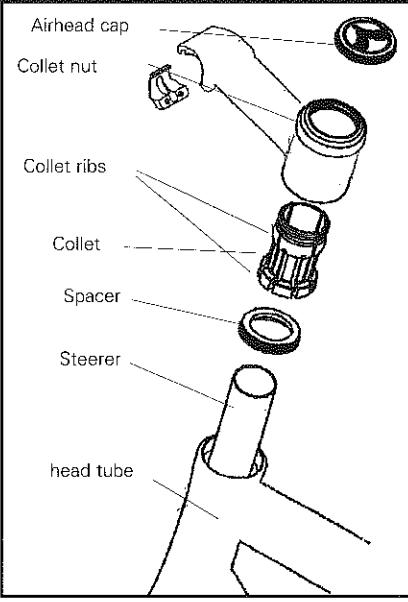

Fig. 28
- Lightly grease the steerer, and remove any excess grease with a rag. Also lightly grease the collet threads and the collet ribs, where the collet contacts the inside of the stem (Fig. 28).